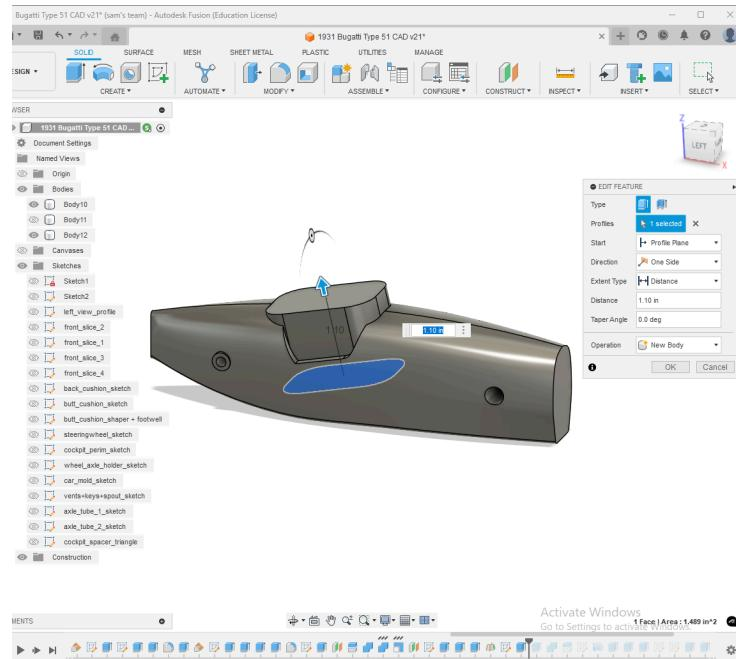

Fig. 28: Extrusion of cockpit ‘pod’ spacer
4. We are very close to making the mold. We need to replace the cockpit ‘pod’ with a spacer that will hold its place while the silicone is poured. Toggle the cockpit ‘pod’ off and extrude the bottom of the cockpit cavity upwards. Instead of joining the geometry, make it a new part, so that it can be toggled on and off for later steps, as shown in **Fig. 28**.